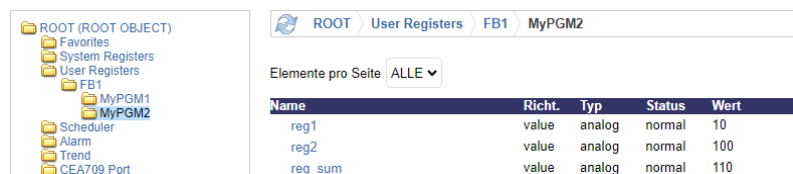

Figure 57: Resulting data points on the device.
25. The device will reboot and come up with the new program. Open the Web UI on the device and verify the add function as shown in Figure 57. Note, that two folders have been generated for the two 61131 program instances (MyPGM1, MyPGM2).